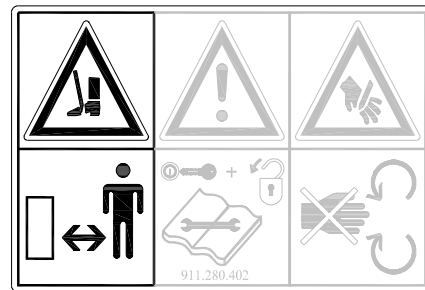

Fig.5
**For bystanders without personal protective gear: please keep a minimum distance of 4 metres!** (Fig.5)